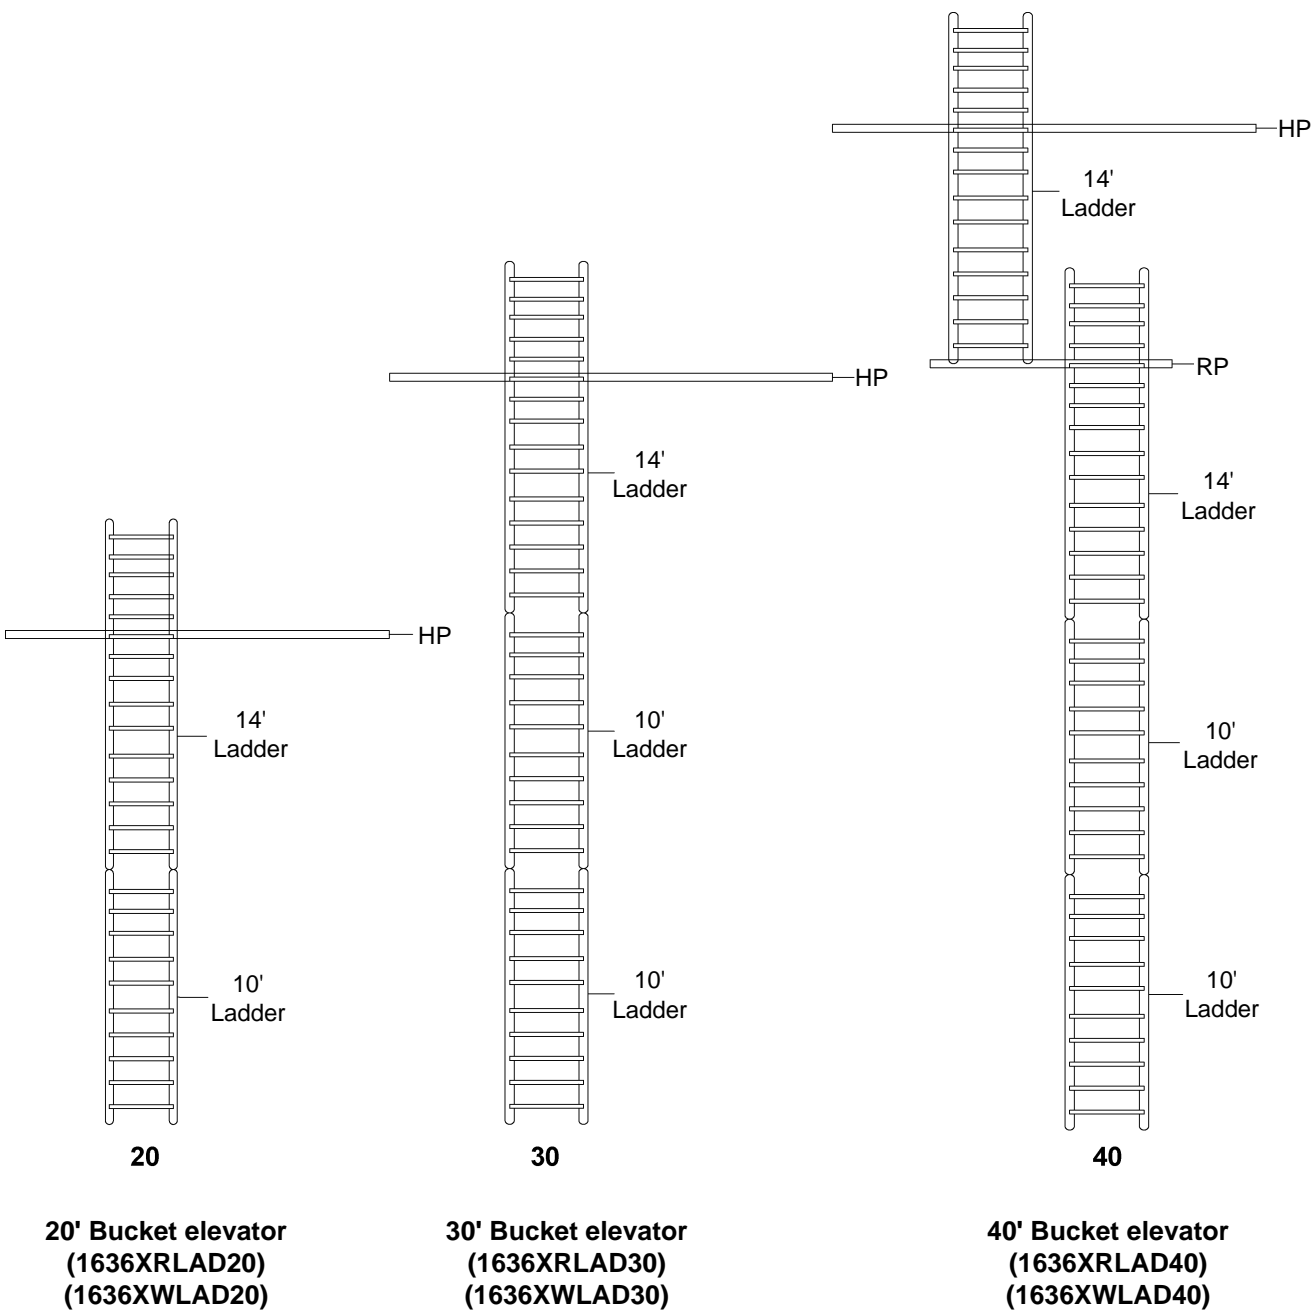

Figure 5A
See Figures 5A-5G on Pages 11-17 to help determine if the ladders should be started on the up-leg or down-leg of the elevator and also aid in the ladder order and rest platform locations for bucket elevators with heights from 20' through 180'.
**NOTE:** Refer to ladder layout images, Figure 5A-5G on Pages 11-17.